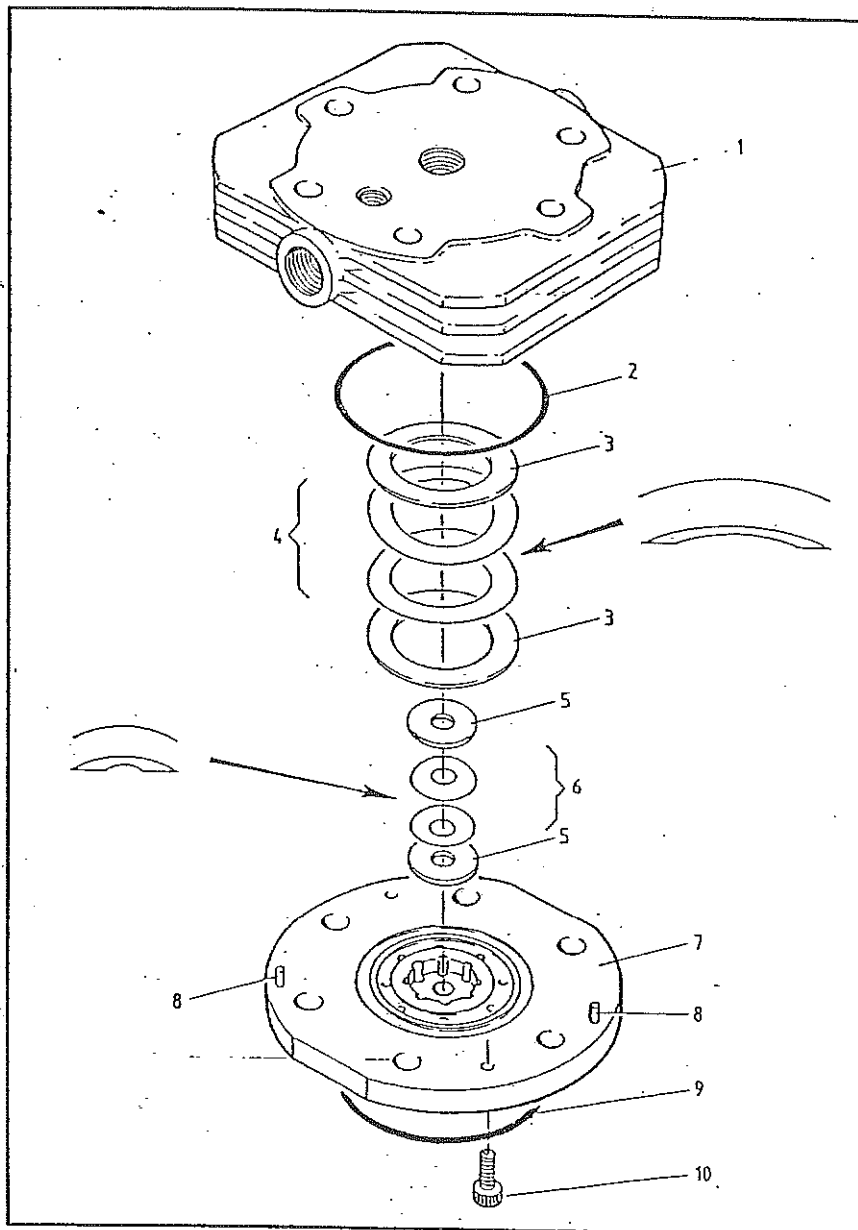

FIGURE 13-10 THIRD STAGE VALVE
THIRD STAGE SUCTION AND DELIVERY VALVE/CYLINDER HEAD ASSEMBLY OVERHAUL (FIGURE 13-10)
Invert base (7) and fit plate (5) followed by springs (6) which should be arranged as shown in Figure 13-10. Fit suction plate (5).
Invert cylinder head (1), and fit plate (3), followed by springs (4) which should be arranged as shown in Figure 13-10. Fit delivery plate (3) and place new "O"-ring (2) into the cylinder head groove. Ensure the delivery plate (3) is centralized. With a small steel ruler, or similar thin-bladed implement, place across base (8) to retain the suction and fit to the cylinder head. Correct location of the base is assured by the offset pins (8) which engage with corresponding holes in the cylinder head.